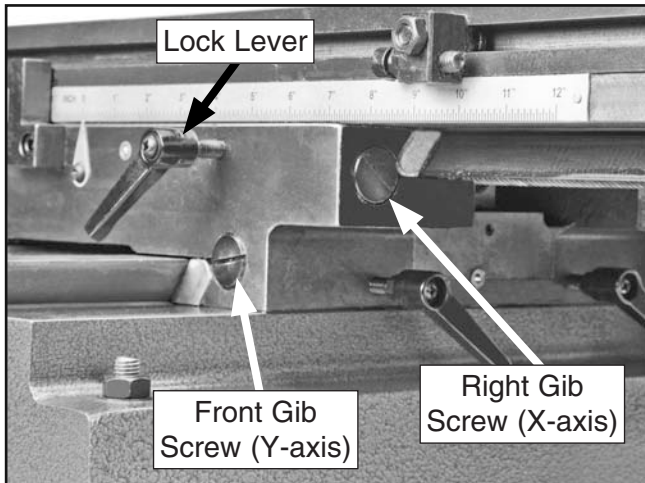

Figure 45. Table gib screws and lock levers.
The headstock and table on this mill each use a long steel wedge called a gib that is positioned between the component and its dovetailed-ways. At the end of each gib is a screw, as shown in **Figure 45**.
2. Loosen the table lock levers (see **Figure 45**) so the table is free to slide.